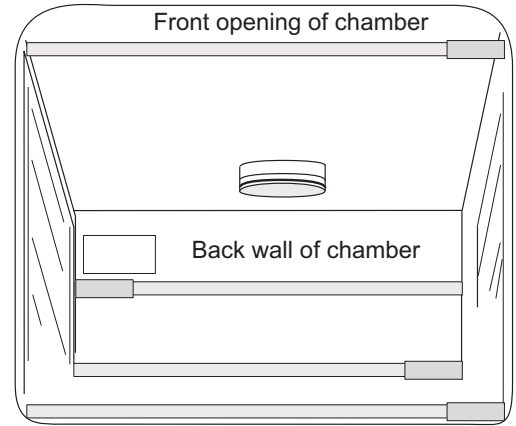

**Figure 1-15.** Spring End
- Slide end cap over spring (Figure 1-15).